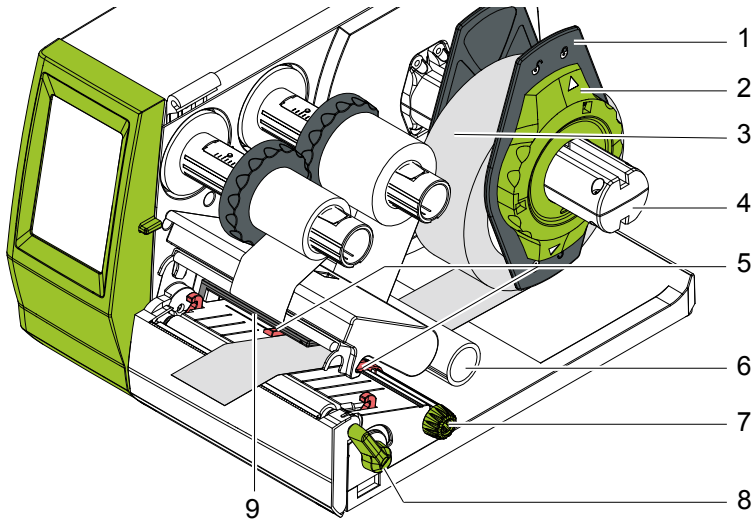

Fig. 9 Loading Continuous Media from Roll
5. Adjust position of the guide on the take-up hub to the width of the ribbon core (3) and push ribbon core on the take-up hub (2).
6. Guide transfer ribbon through the printing unit as shown in Fig. 9.
▶ **Guide transfer ribbon over the label sensor (7).**
7. Secure starting end of the transfer ribbon to the ribbon core (3) using adhesive tape. Ensure counterclockwise rotation direction of the transfer ribbon take-up hub.
8. Turn transfer ribbon take-up hub (2) counterclockwise to smooth out the feed path of the transfer ribbon.
9. Press printhead down and turn lever (6) clockwise to lock printhead.